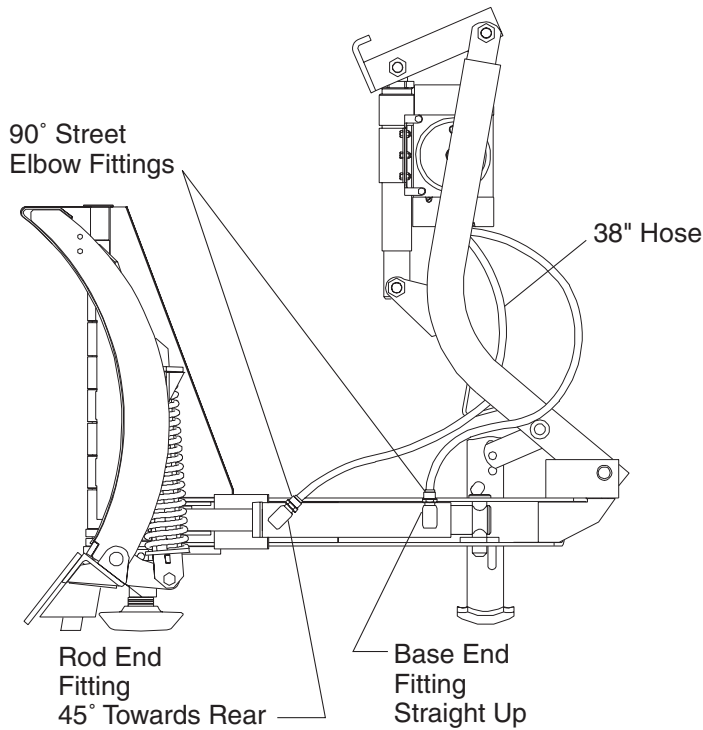

Figure 16
12. Install a 90° street elbow fitting into each port in the angling rams. Position fittings as shown in Figure 16.
13. Attach a 38" hose to the fitting on the rod end of each ram. (See Figure 16.)
14. Route rod end hoses through lift frame stops to avoid pinched hoses. (See Figures 16 and 17.)